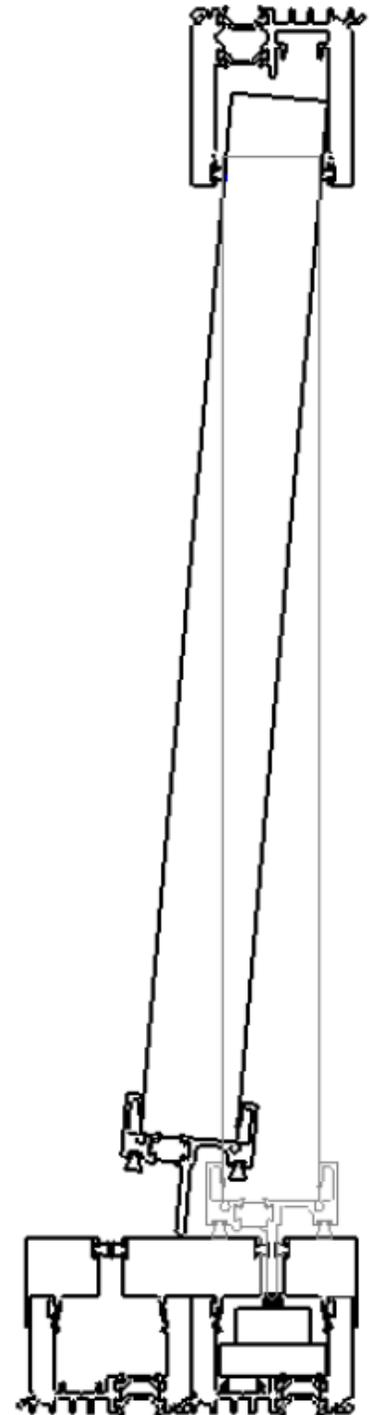

Figure 12
- Snap the fin on to the bottom of the lead panel with a soft mallet or dead blow hammer. The bottom of the panel will have the glass tempering mark "bug" located in the corner. See Figure 12
**Note: If you are installing a bi-parting door, you will have one (1) active lead panel and one inactive lead panel. The inactive lead panels are to be installed on the innermost track. The active lead panel will be installed to the left of the center, as viewed from the exterior of the building. Fixed panels have one (1) interlock and rest on the outermost track. Intermediate panels will have two (2) interlock stiles.**